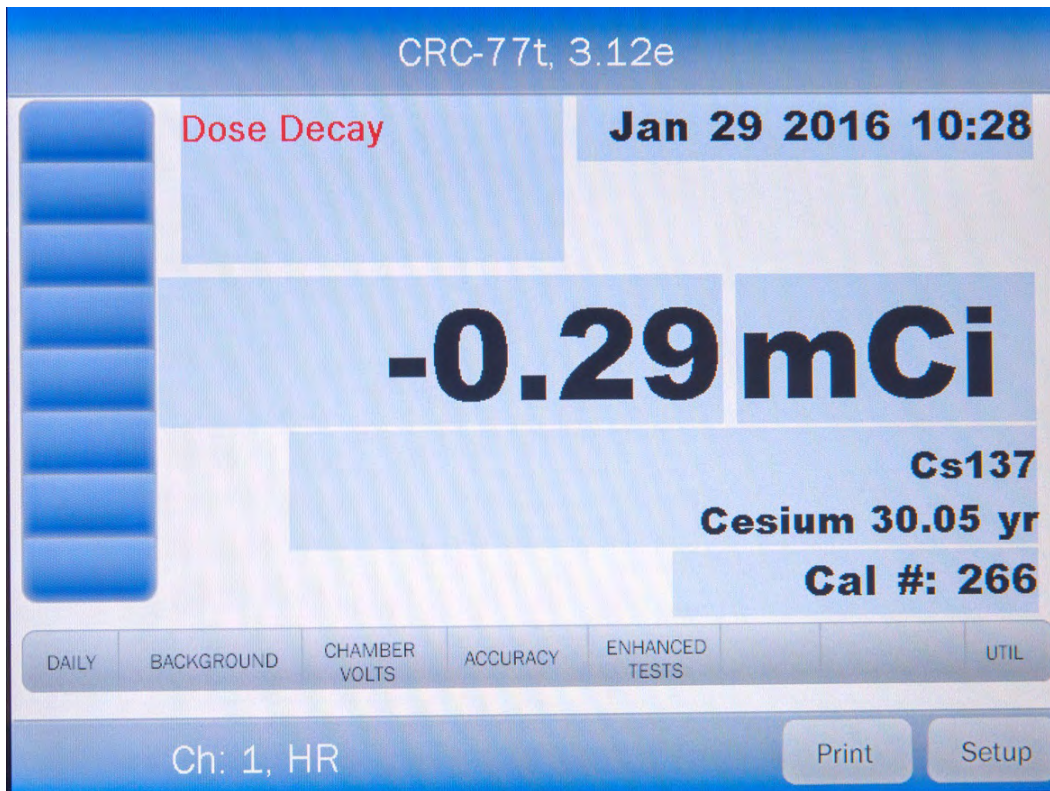
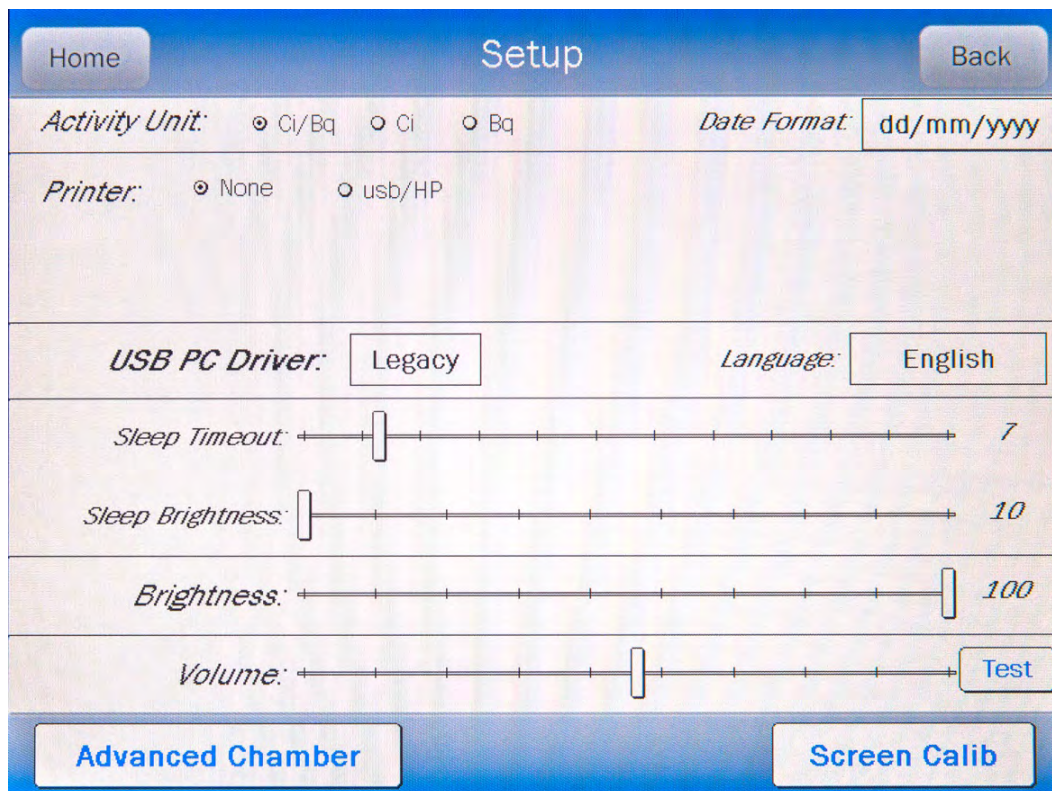
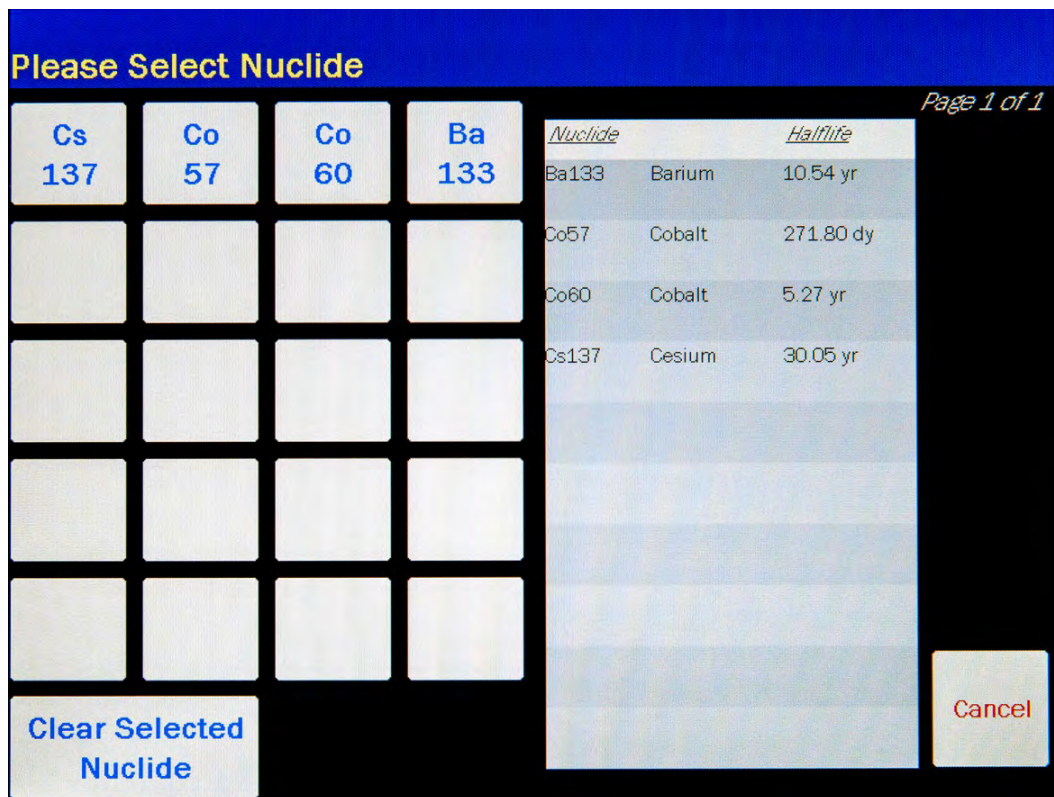

Figure 6-1 Measurement Screen
Figure 6-2 Setup Screen
Figure 6-6 Select Nuclide Screen
- Home screen..... These are the eight isotope buttons located at the left edge of Figure 6-1 Measurement Screen. Touching one of these buttons selects the programmed nuclide for measurement.
- Select Nuclide screen..... These are the 20 buttons on the left half of Figure 6-6 Select Nuclide Screen. Touching one of these buttons selects the programmed nuclide.
Touch the **SETUP** button located on Figure 6-1 Measurement Screen. Figure 6-2 Setup Screen will appear.
The left side of the screen displays a list of isotopes titled “Home Screen”. These are the eight Hotkeys that are displayed on the left side of Figure 6-1 Measurement Screen. The isotopes shown under the title “Nuclide Screen” are the 20 preset **NUCLIDE** buttons that are displayed on Figure 6-6 Select Nuclide Screen.
To change the assignment of a Home Screen Hotkey, touch the desired Nuclide field box in the Home Screen column. Figure 6-6 Select Nuclide Screen will appear.
The Select Nuclide Screen Hotkeys on Figure 6-6 Select Nuclide Screen are populated by default with the following nuclides:
To change the assignment of a Select Nuclide Screen Hotkey, touch the desired isotope field box in the Nuclide Screen section. Figure 6-6 Select Nuclide Screen will appear.